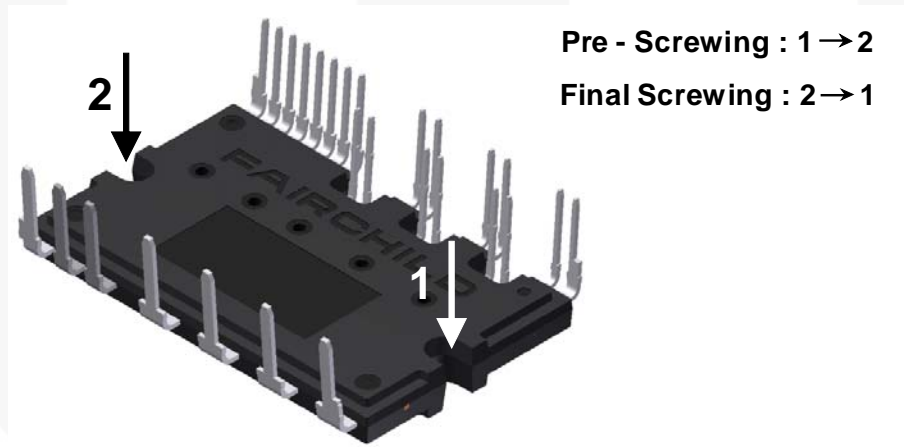

Figure 9. Mounting Screws Torque Order
11. Avoid one-sided tightening stress. Figure 9 shows the recommended torque order for mounting screws. Uneven mounting can cause the DBC substrate of package to be damaged. The pre-screwing torque is set to 20 ~ 30% of maximum torque rating.